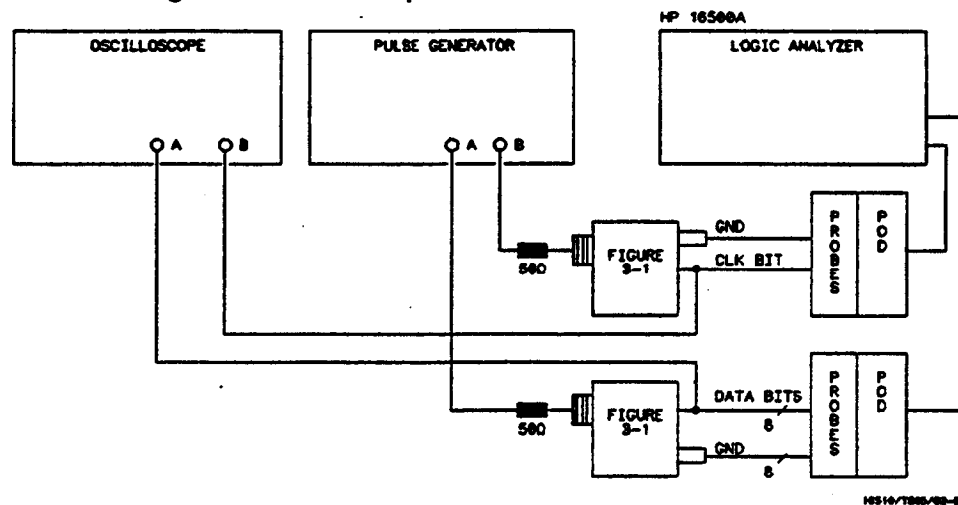

Figure 3-22. Equipment Setup For Test 5
1. Connect the HP 16510B and test equipment as in figure 3-22. In order to most accurately measure the amplitude of the test signals from the pulse generator, high impedance scope probes should be used to look at the signal levels at the output of the BNC test connector.